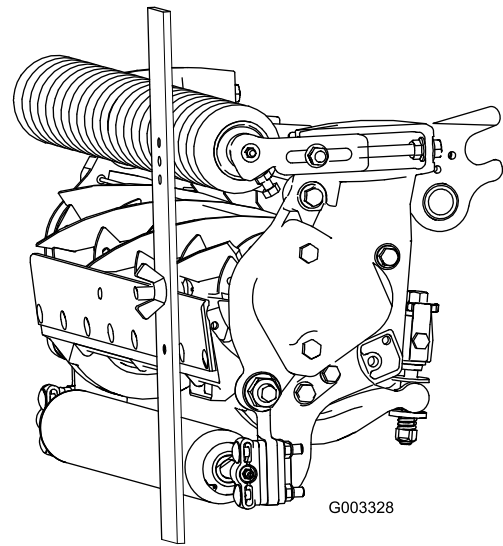

Figure 16
3. Hook the screw head on cutting edge of bedknife and rest rear end of bar on rear roller (Figure 16).
4. Rotate the adjusting screw until the front roller contacts the gauge bar (Figure 16). Adjust both ends of roller until entire roller is parallel to the bedknife.